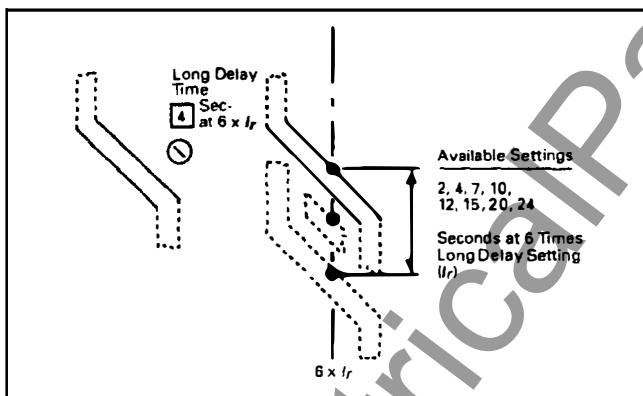

Fig. 8.2 Long Delay Time Settings
There are eight (8) available Long Delay Time Settings, as illustrated in Fig. 8.2, ranging from 2 to 24 seconds. These settings are the total clearing times in seconds, when the current value equals six (6) times  $I_r$ . The (LS) Time-Current Curve applicable for your circuit breaker gives complete details. (See Section 6.)